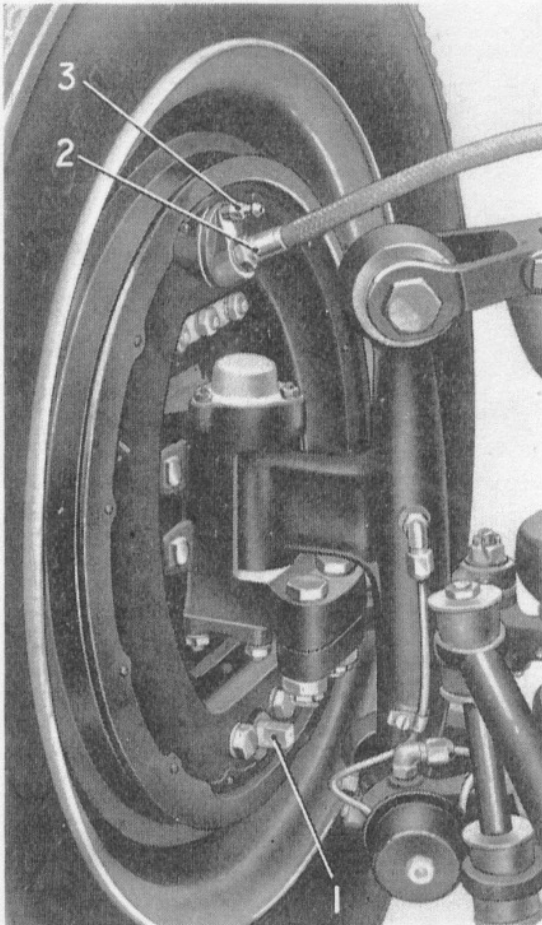
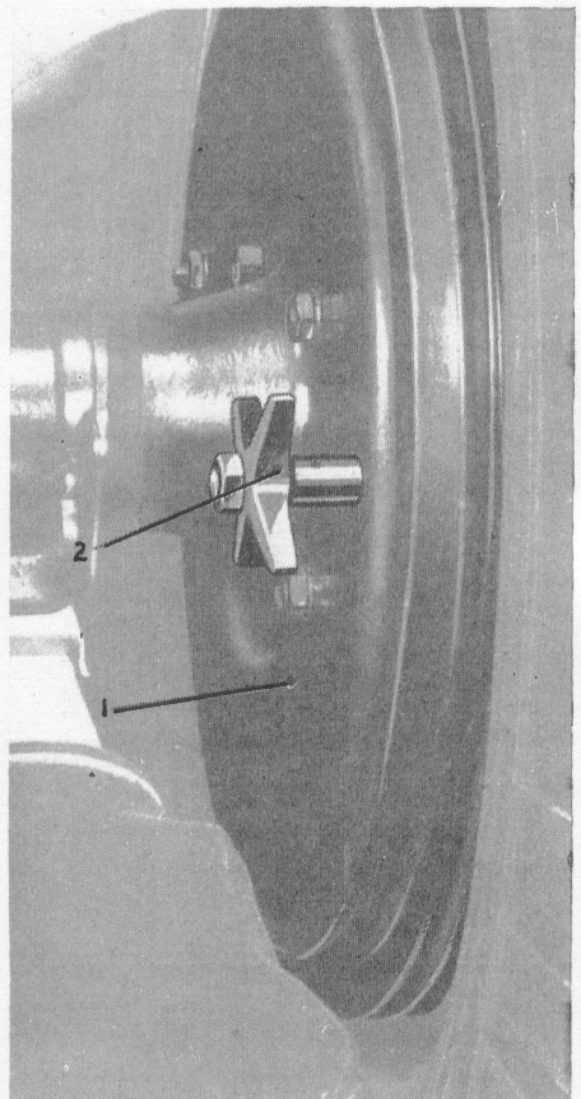
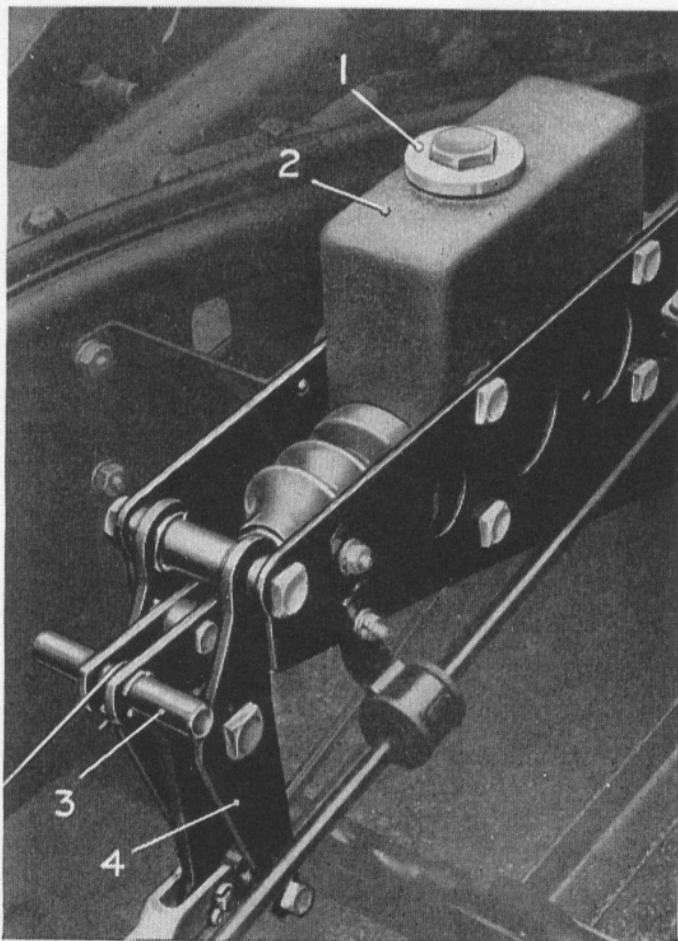

Fig. 16.—FRONT BRAKE ADJUSTMENT.
Fig. 17.—REAR BRAKE ADJUSTMENT.
Fig. 18.—THE HYDRAULIC MASTER CYLINDER AND RESERVOIR.
The method of adjustment is the same for both front and rear brakes, with the exception that a hand wheel is provided on the rear brake adjusters, while a $\frac{1}{4}$ " B.S.F. open-ended spanner must be used on the squared end of the front brake adjusters. The rear adjusters (2, Fig. 17) are located forward of the axle tubes, and the front adjusters (1, Fig. 16) directly below the steering pivot pins.
1. Attach a clean rubber drain tube to one front brake bleeder screw (3, Fig. 16), and immerse the other end in a clean glass jar in which there is sufficient hydraulic brake fluid to submerge the end of the tube.
2. Release the bleeder screw (3) half to one turn.
3. Remove the filler plug (1, Fig. 18) and fill the reservoir integral with the master cylinder, with the recommended fluid. (See page 28.)
4. Push the joint forward until the extended pin (3) abuts against the master cylinder support brackets (4).